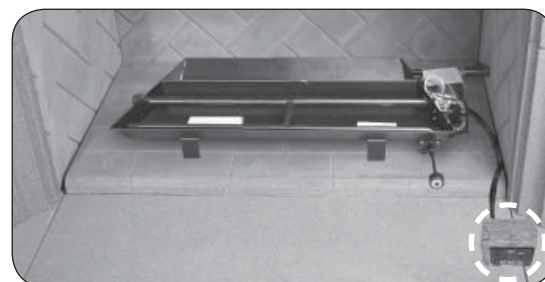

Fig. 14-4 Place heat shield (if applicable)
9. Place the decorative heat shield over the remote receiver box as shown in Fig. 14-4.